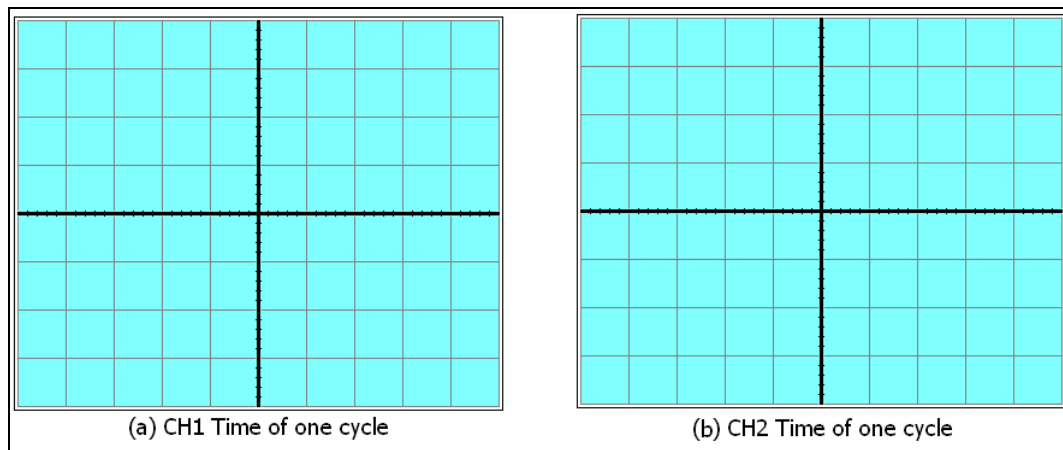

Fig. 2-4 Drawing the Waveforms
8. Sketch the waveforms in the space provided in Fig. 2-4(a). Measure the time of one cycle of the input and compute the input and output frequencies. Draw 2 cycles of the input and output waveforms in Fig. 2-4(b).